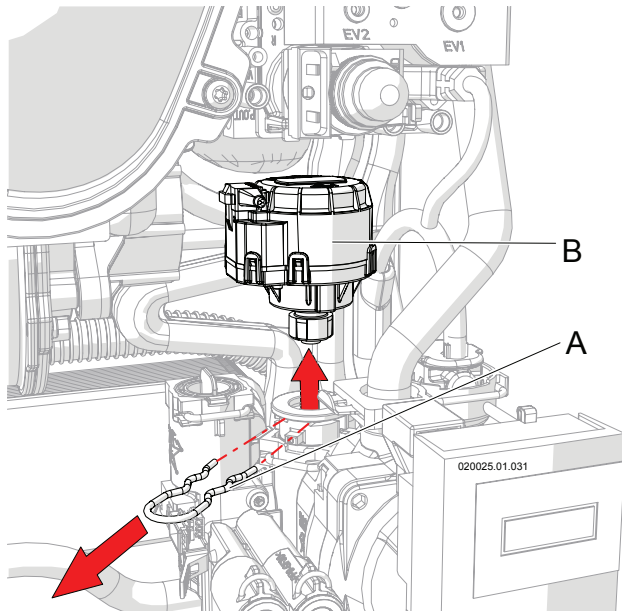

Figure 8-13 – Removing the servomotor
Proceed as follows, making reference to figure 8-13:
- 3.- Slide drive bar “A” outwards as in figure 8-13;
- 4.- Extract servomotor “B” upwards as in figure 8-13.